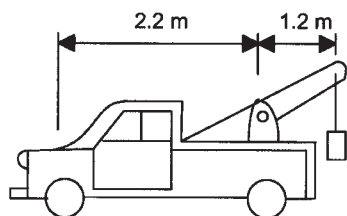

Figure 2.40 Problem 24
- 24 What is the position of the centre of gravity of the 3000 kg tow truck shown in Figure 2.40 if the maximum load it can lift before the front wheels come off the ground is 4000 kg?